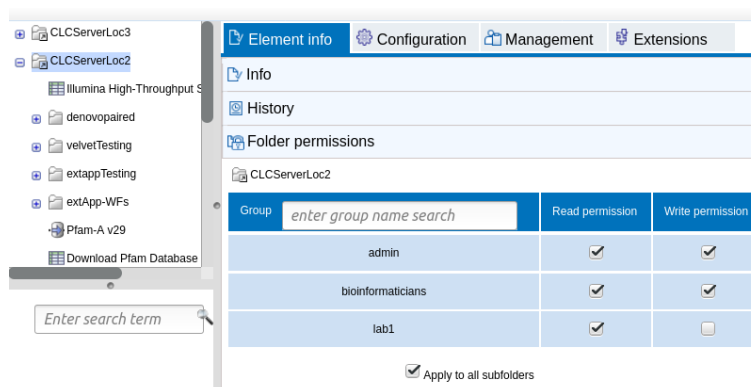

Figure 6.3: Group permissions being applied to an entire file system location.
*Folder permissions* tab. Select a folder in the Navigation Area on the left hand side. A view like that in figure 6.3 will appear if the folder is in a location with group level permissions enabled. Top level locations can also be selected.